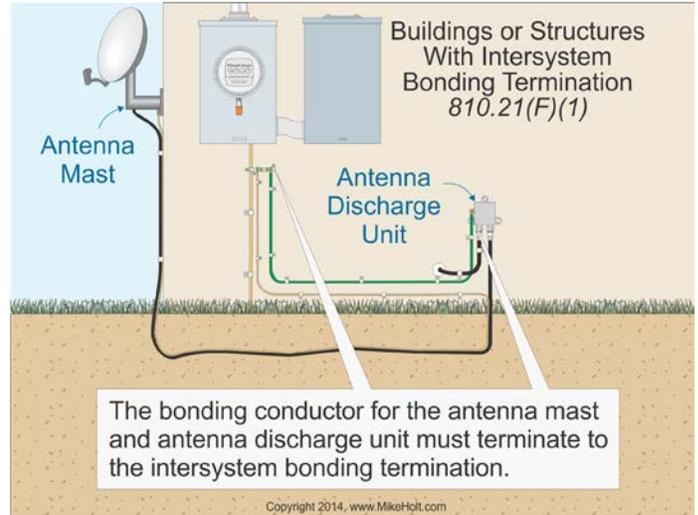

Figure 810-13
**(E) Run in Straight Line.** The bonding conductor or grounding electrode conductor must be run in as straight a line as practicable.
**(F) Electrode.** The bonding conductor or grounding electrode conductor must terminate in accordance with (1), (2), or (3).
**(1) Buildings With an Intersystem Bonding Termination.** The bonding conductor for the antenna mast and antenna discharge unit must terminate to the intersystem bonding termination as required by 250.94 [Article 100 and 250.94]. Figure 810-13